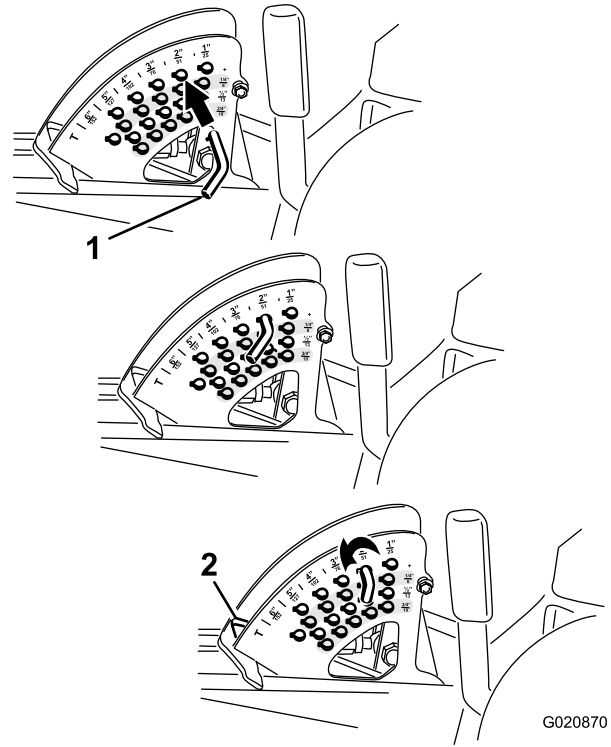

Figure 30
2. Rotate the stop pin until the roll pin in it lines up with the slots in the holes in the height-of-cut bracket and remove it (Figure 30).
3. Select a hole in the height-of-cut bracket corresponding to the height of cut desired, insert the pin, and rotate it down to lock it in place (Figure 30).
**Note:** There are 4 rows of hole positions (Figure 30). The top row gives you the height of cut listed above the pin. The second row down gives you the height listed plus 6 mm (1/4 inch). The third row down gives you the height listed plus 12 mm (1/2 inch). The bottom row gives you the height listed plus 18 mm (3/4 inch). For the 15.8 cm (6 inch) position, there is only 1 hole,